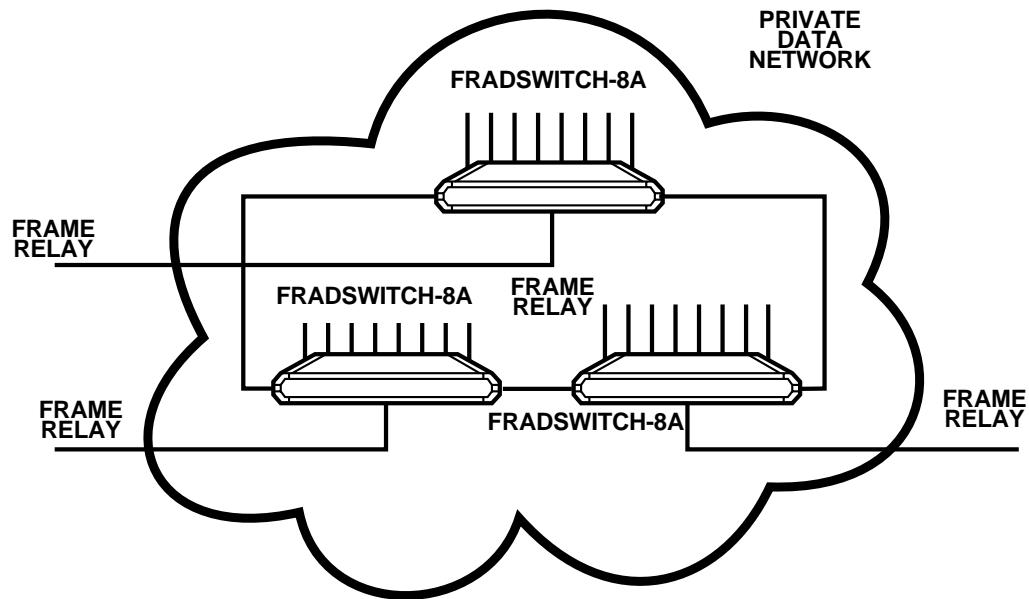

Figure 2-5. Fradswitch-8A serving as a backbone for Frame Relay private data network.
- Routing between several Frame Relay devices or networks (Frame Relay to Frame Relay switching). (See **Figure 2-5**.)
When a link is configured for Frame Relay, packets are processed as follows. If the Fradswitch is located at the user side (acting as an end device), the received Frame Relay packets are converted into async or X.25 format and are routed to the appropriate port. (See **Figure 2-4**.) If the Fradswitch is located at the network side, the received Frame Relay packets are routed to another Frame Relay link. (See **Figure 2-5**.)